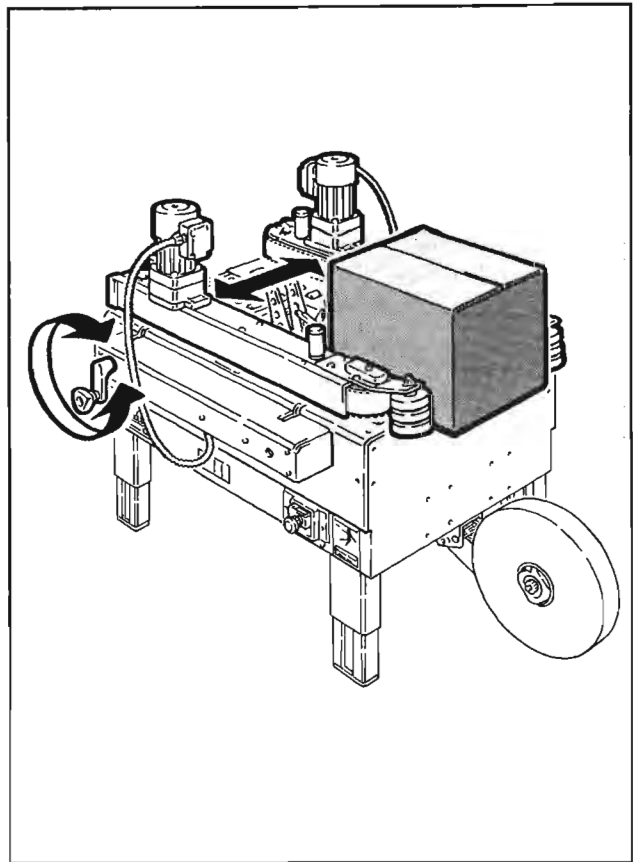

Figure 3-2 – Side Drive Belts
7. Taping head utilizes an extremely sharp knife blade. The blade is located under the orange blade guard that has the 'WARNING – SHARP KNIFE' label. Before loading tape, refer to Section II, page 6, Figure 3-2 to identify the blade location. Keep hands out of this area except as necessary to service the taping head.
1. ADJUST DRIVE BELTS (Figure 3-2)